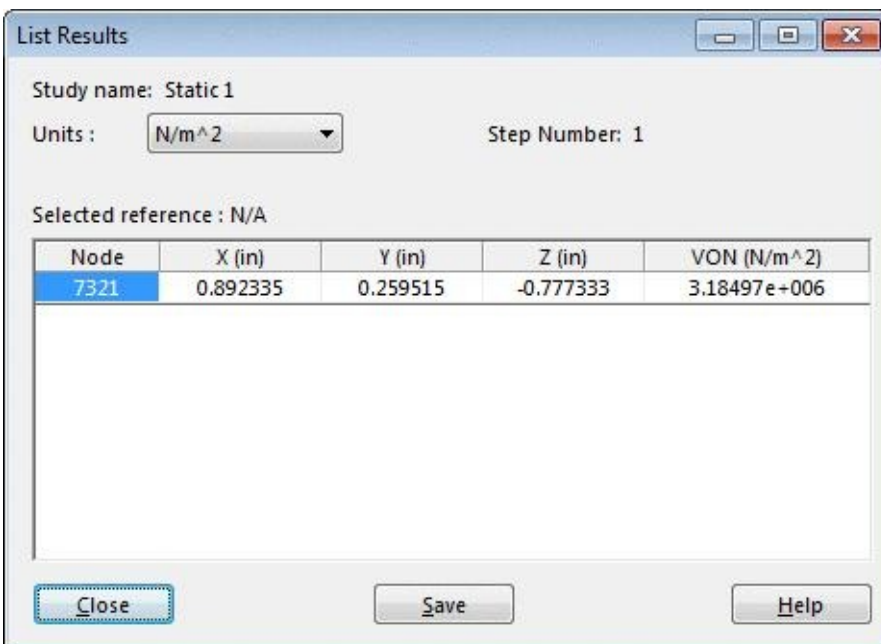

Figure-91. List Results dialog box
- Click on the **OK** button from the **PropertyManager**. The **List Results** dialog box will be displayed; refer to Figure-91.